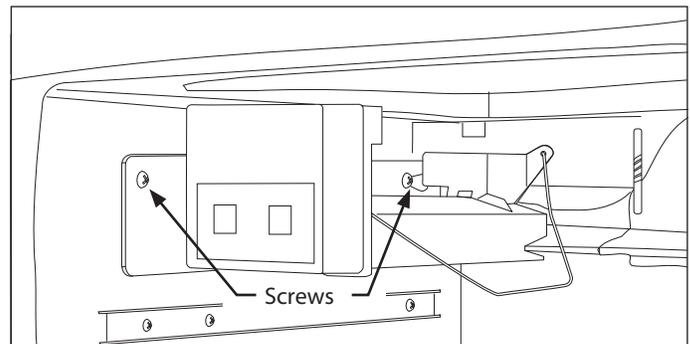

Figure 6-44.
6. Extract the one screw at the front of mounting plate. (See Figure 6-44)